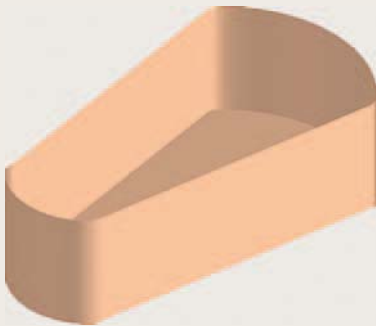
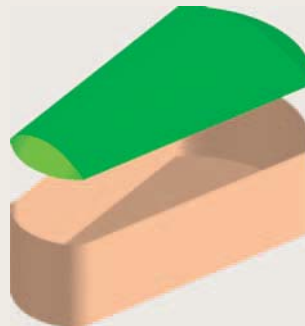

Fig. 17.45 Exercise 8 – the box
Fig. 17.46 The box and its lid
8. Construct suitable polylines to sizes of your own discretion in order to form the two surfaces to form the box shape shown in Fig. 17.45 with the aid of the **Rulesurf** tool. Add lighting and a material and render the surfaces formed. Construct another three **Edgesurf** surfaces to form a lid for the box. Place the surface in a position above the box, add a material and render (Fig. 17.46).